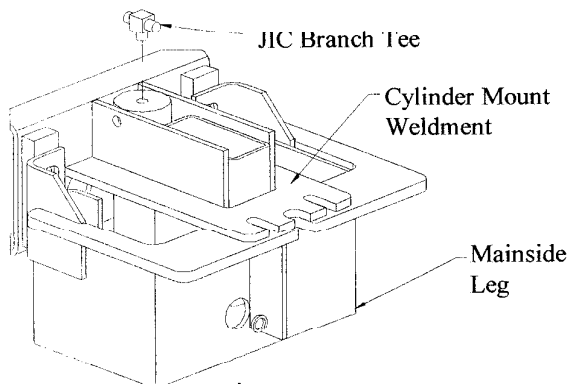

FIGURE 5
7. Remove the red port plugs from each cylinder. Attach a male pipe thread to male JIC 90 elbow to the nipple at the bottom end of both cylinders. The fitting should face toward the top of the cylinder. Attach a male pipe thread to male JIC branch tee to the top opening of the mainside leg cylinder. The branch tee should run perpendicular to the mounting bolt. Figure 5
the left, as you look into the leg. See Figures 5 & 6 for placement of cylinders in the top of the legs.